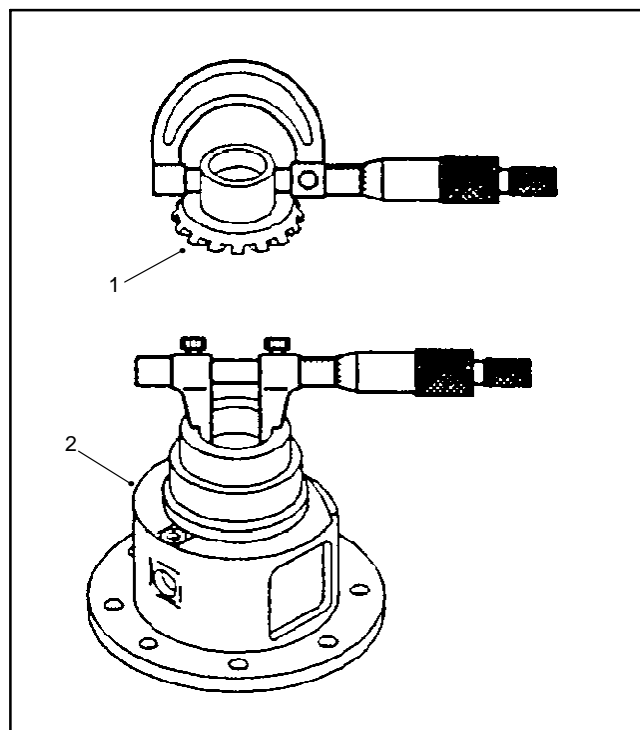

Figure 34
1. Measure the differential side gear O.D. and the differential case I.D. to determine the side gear to case clearance (Fig. 34). Replace components as necessary.